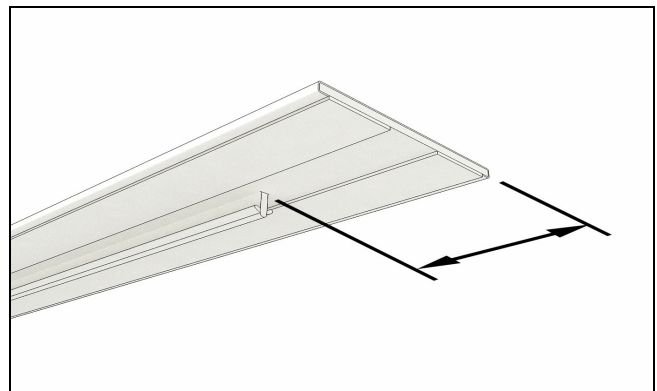

Figure 18
18. Notch exterior mull cover to fit over end plugs by 1" +/- 1/4" from end. See Figure 18.